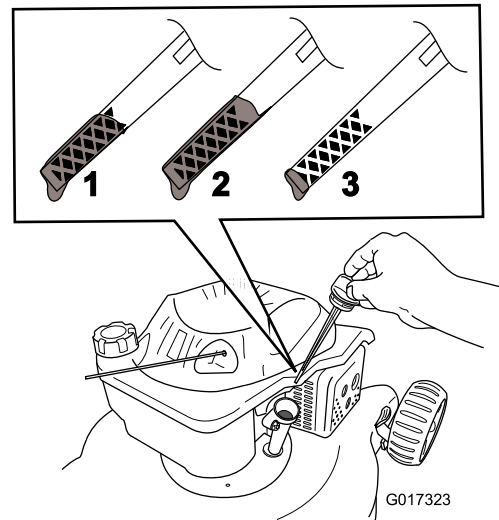

Figure 6
2. Remove the dipstick (Figure 6).
5. Read the oil level on the dipstick (Figure 6).